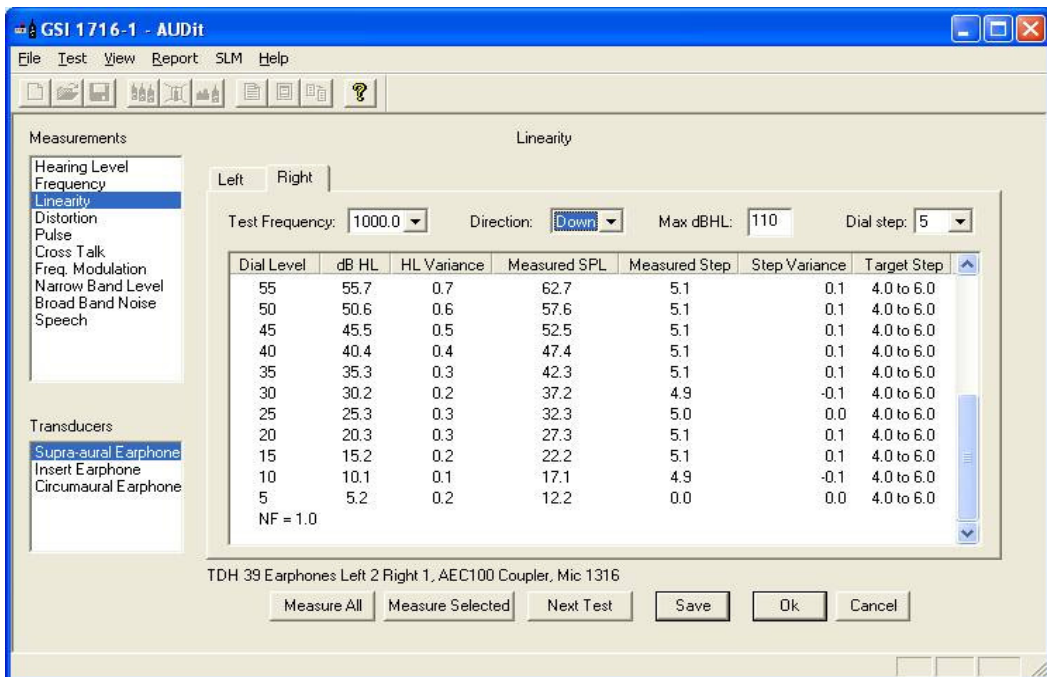

FIGURE 8-1 Linearity Measurement Screen
- Step 5** Set the audiometer to the prompted level and frequency and then click **OK**. There may be a delay while the measurement system gain is adjusted. Once the noise floor has been measured (e.g. 1.0 dB), it will appear on the Linearity screen (FIGURE 8-1).